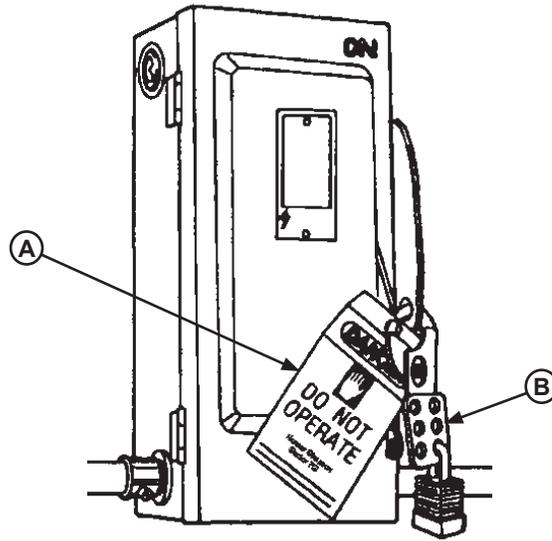

Figure 6
When working with electrical or electronic controls, make sure that the power source has been tagged (A) and locked out (B) according to OSHA regulations* and approved local electrical codes (see Figure 6).